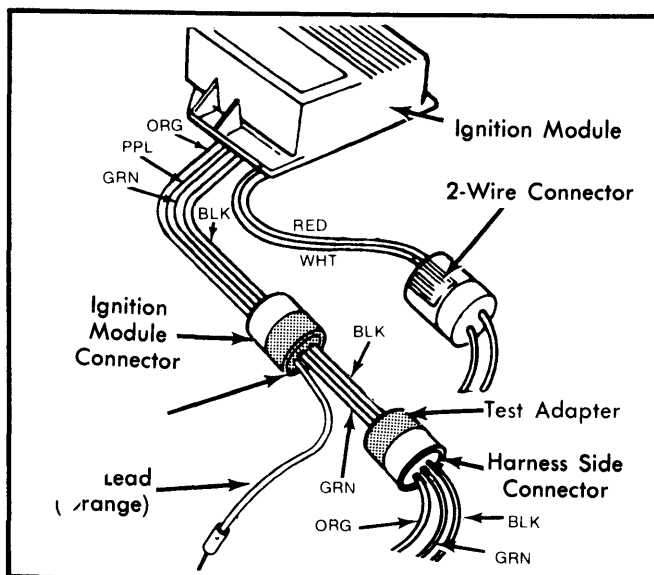
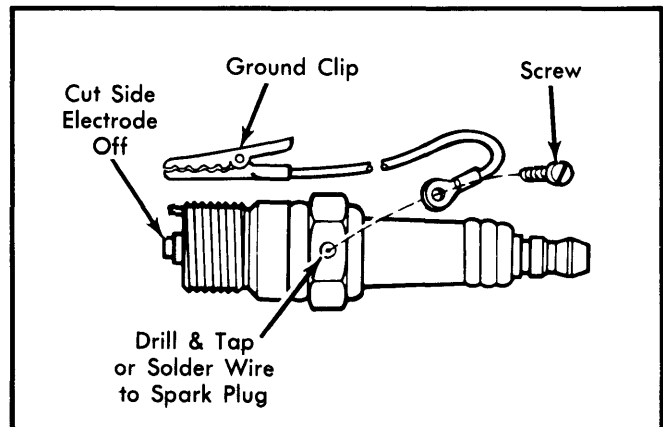
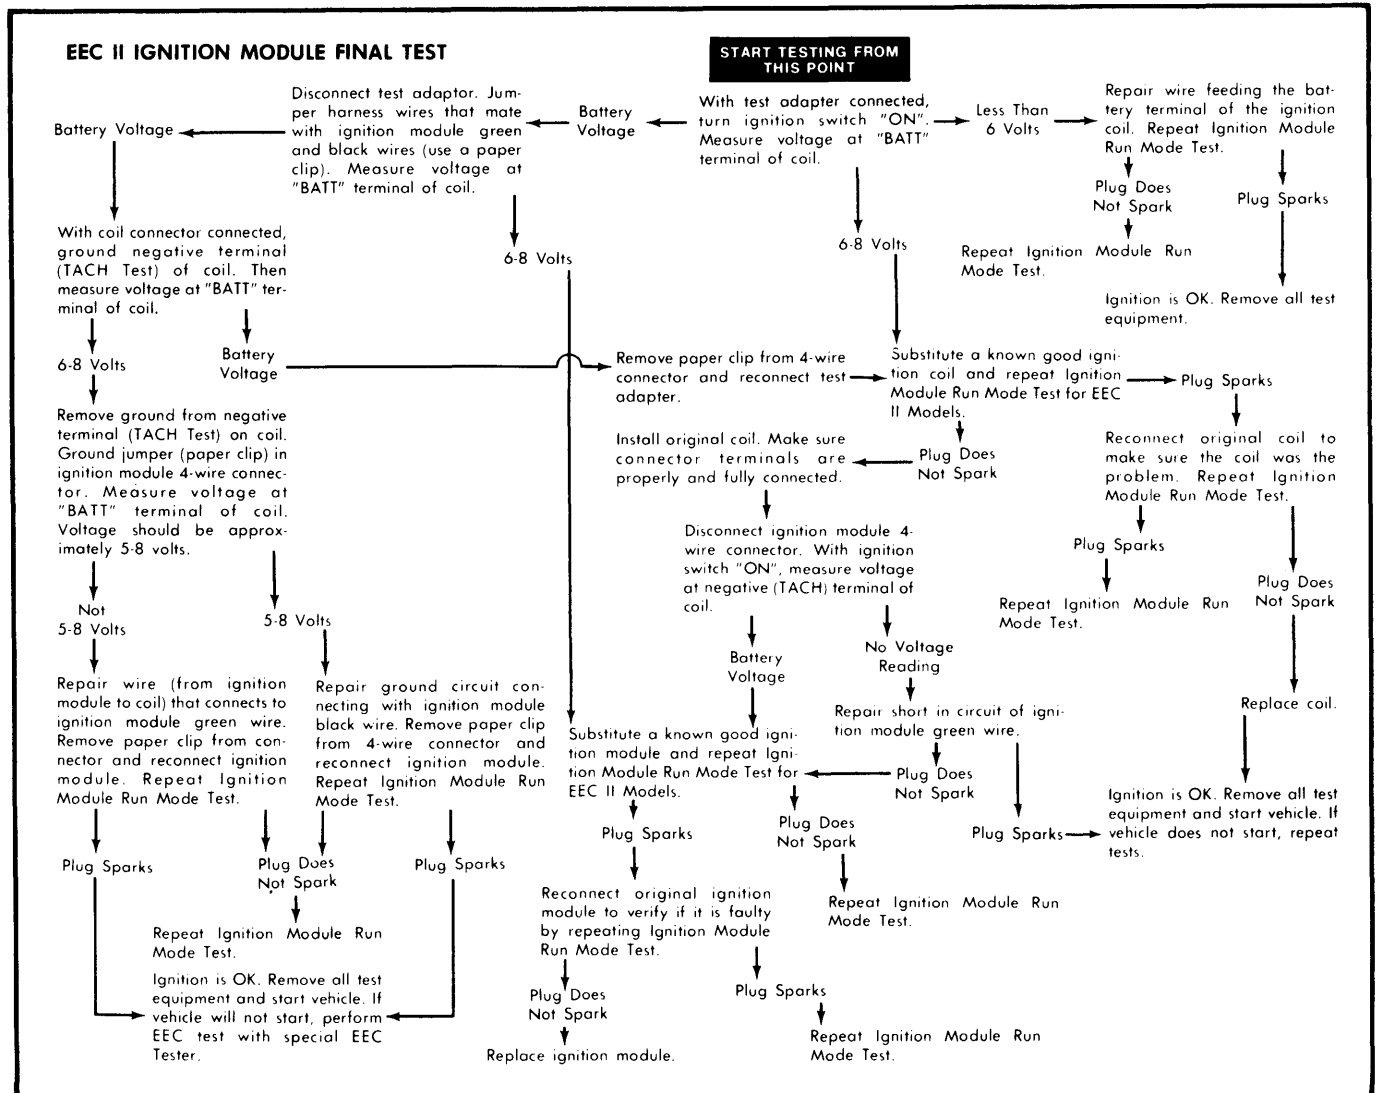

Fig. 6 Installation of Test Adapter or Jumper Wires for Performing EEC Diagnosis
Fig. 7 Special Modified Spark Plug with Side Electrode Removed and Ground Wire Attached
Fig. 8 EEC II Ignition Module Final Test
1) Connect an adapter between ignition module 3-wire connector and harness connector. See Fig. 6. If adapter is not available use jumper wires to connect green wire on ignition module to green wire on harness connector, black wire on ignition module to black wire on harness connector, and an orange wire connected to orange wire of ignition module connector, but not attached to harness connector orange wire. This orange lead is used as the diagnostic lead. See Fig. 6.
2) Attach a modified spark plug to coil secondary wire. See Fig. 7. Turn ignition switch to "START" position and hold.
1) Insert test adapter between wiring harness and ignition module 4-wire connector. See Fig. 6. Connect a scope with clamp-on pick-up to coil secondary wire. If scope is not available, use a modified spark plug attached to coil secondary wire with plug case grounded. See Fig. 7. Turn ignition to "ON" position and ground the diagnostic test wire of adapter. Check for sparks each time wire is removed from ground.
4) Turn ignition switch "ON" and measure battery voltage and voltage at ignition module red wire. If voltages are not equal, repair ignition module red wire circuit and attempt again to start vehicle. If vehicle will not start or if battery voltage and red wire voltage were equal, proceed to Ignition Module Final Test. See Fig. 8.
1) With test adapter connected, crank engine and repeatedly touch diagnostic test wire to battery positive terminal and check for sparks at modified spark plug. See Figs. 6 and 7. If plug sparks, remove test equipment and start vehicle. If vehicle will not start, proceed to EEC II Ignition Module Final Test. See Fig. 8. If plug sparks, proceed to step 2).